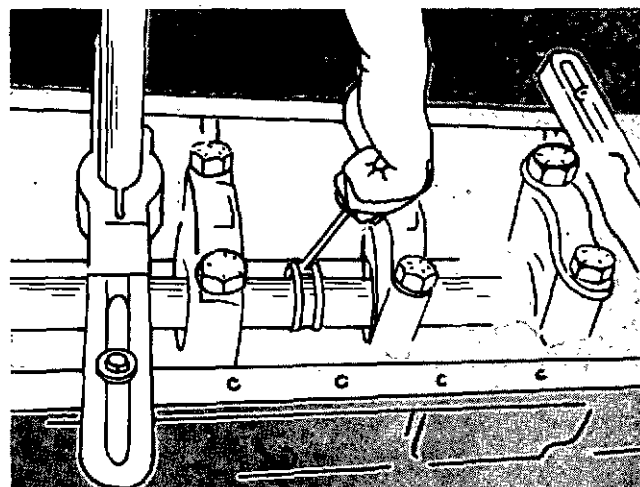

Fig. 1-43. Install The Tool Holder Onto The Boring Bar.
9. Install the tool holder on the boring bar, next to the bore to be cut, Fig. 1-43. When the bore is being cut, the boring bar will move toward the feed assembly. Make sure the cutting edge of the cutting tool is turned in the direction the drill rotates.